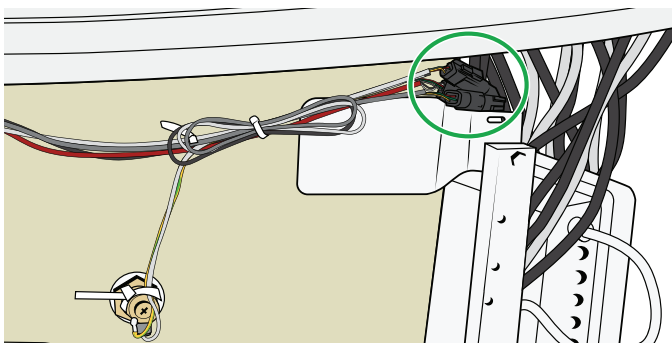

Figure 41
24. On the right side, cut the cables tie and disconnect the Side panel connector. If equipped with Underwater lights, disconnect the two LED light quick connectors. See Figure 41.